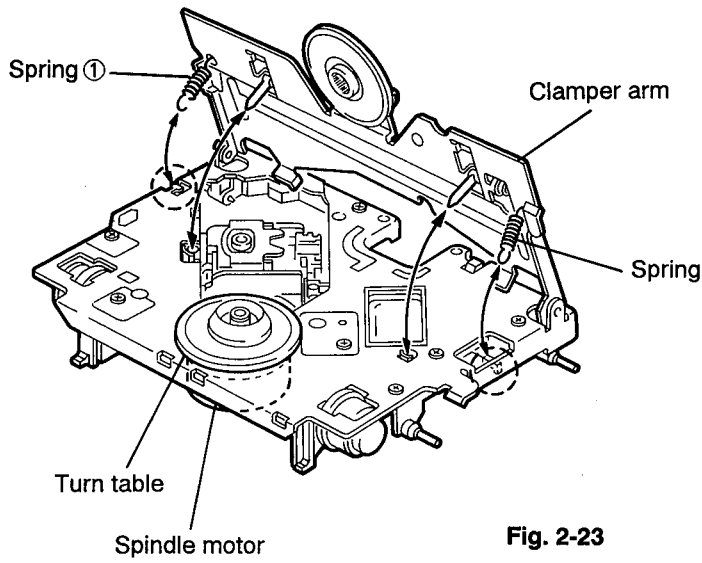

Fig. 2-23
1. After turning back the CD mechanism to initial position, remove the two springs ① and ① on both the right and left sides of the clamper arm (See Figs. 2-23 and 2-24).